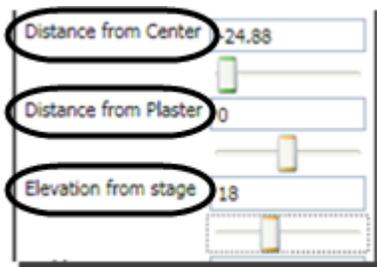
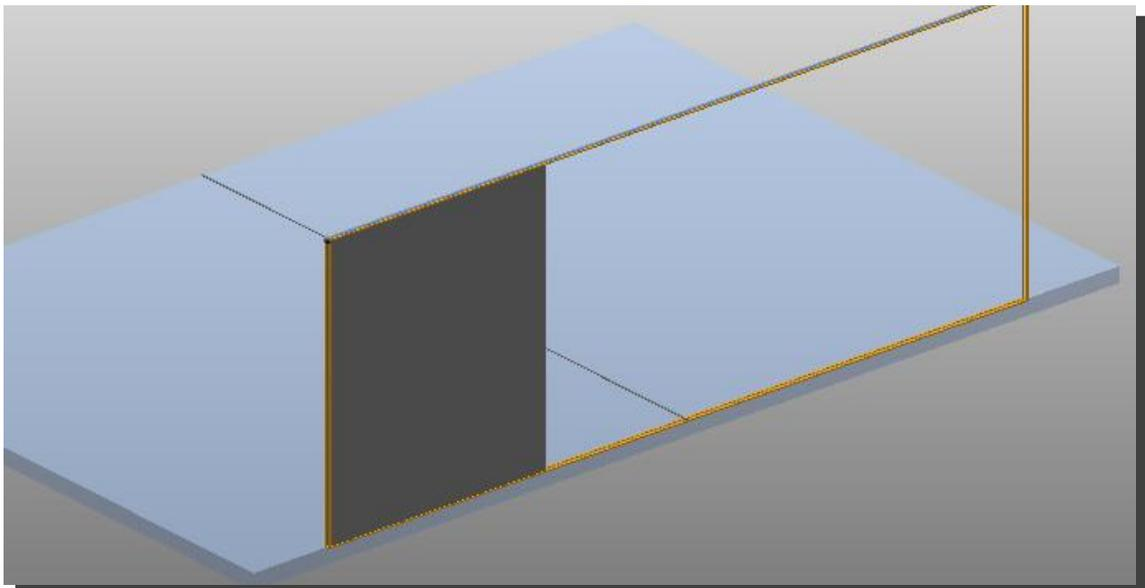

Figure 283
Figure 284
4. Using the **Distance from Center**, **Distance from Plaster** and **Elevation from Stage** fields, position the curtain on the stage (Figure 283 and Figure 284).